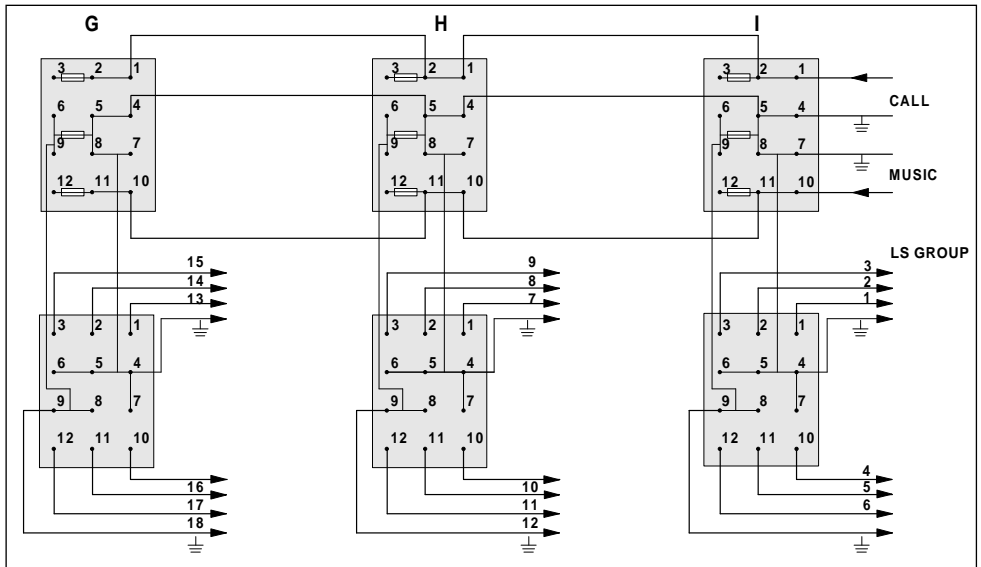
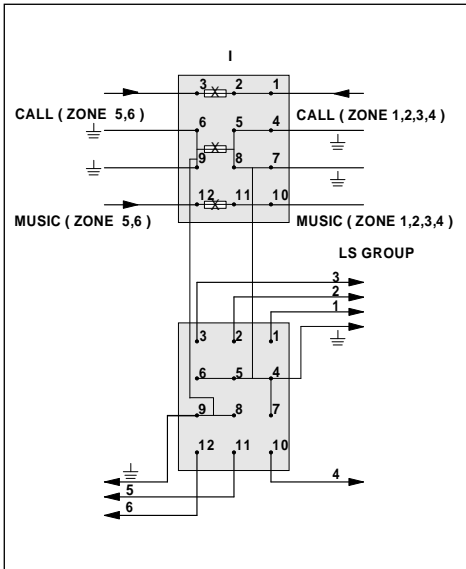

Fig. 12.2 - Coupling zones
Fig. 12.3 - Input splitting
The centre row of 4 sockets are used for linking the module to the next Zone Relay Module. The bottom connector (fig.12.1A) feeds the routed outputs to the 6 loudspeaker zones. Fig.12.2 and fig.12.3 show how to connect the Mate-N-Lok connectors and illustrates several possibilities for configuring amplifier connections, some of which are briefly described below.
When more than 1 Zone Relay Module is used in a system, the inputs of the modules may be linked together (fig.12.2), so that the same amplifier(s) can feed up to 18 loudspeaker zones. This is done by making short linking wires, fitted with Mate-N-Lok connector pins at each end. One end is pushed into one of the centre row of termination sockets in the first 'Input' Mate-N-Lok connector plug (I).
(fig.12.3).